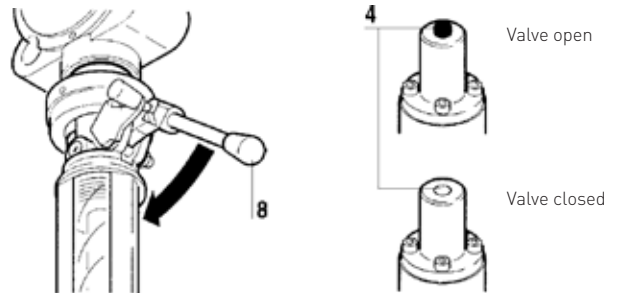

Figure 7
9.2.1 With pressurized pipelines (Figure 7)